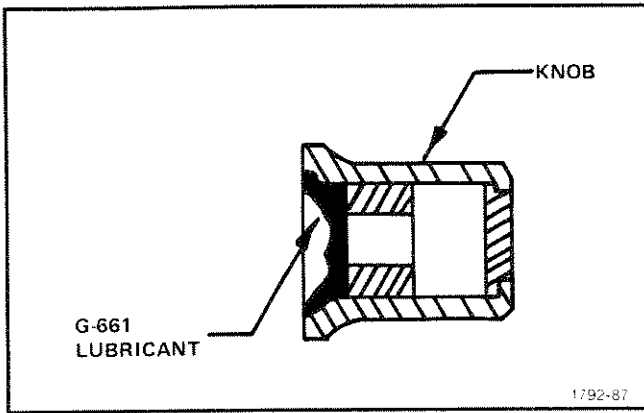

Fig. 5-34. Lubrication of FOCUS and INTENSITY control knobs.
**29. Install the FOCUS and INTENSITY knobs (see Fig. 5-34)**
- 1. Apply G-661 lubricant to both knobs as shown in Fig. 5-34.